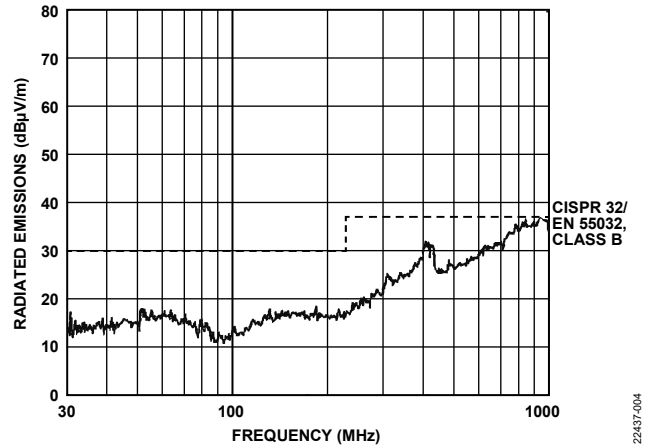
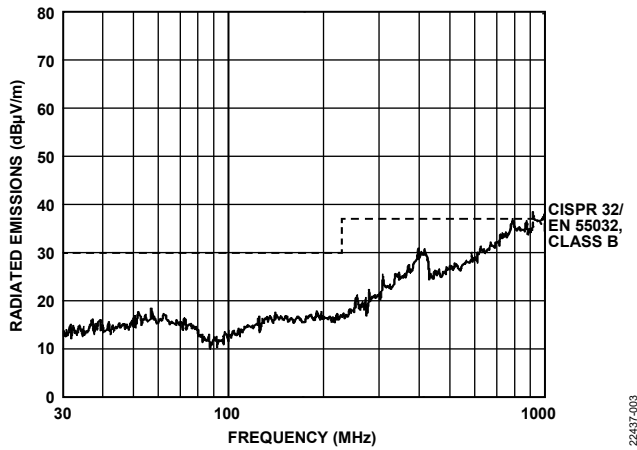

Figure 5. Peak Horizontal Scan from 30 MHz to 1 GHz with 50 mA, 5 V Output, and 5 Mbps Signals on Channel A, Channel B, Channel C, and Channel D
Figure 4. Peak Horizontal Scan from 30 MHz to 1 GHz with 100 mA, 5 V Output, 0 Mbps Signals on Channel A, Channel B, Channel C, and Channel D
The **ADuM6420A/ADuM6421A/ADuM6422A** devices provide regulated, isolated power that meets CISPR 32/EN 55032, Class B limits at full load on a 2-layer printed circuit board (PCB) with ferrite beads. Radiated emissions test plots of the EVAL-ADUM6421ARNZ/EVAL-ADUM6421AURNZ are provided in Figure 4 and Figure 5. All devices in the family include the same isolated dc-to-dc converter and are differentiated by directional digital channel configurations.
Measurements carried out according to the CISPR 32/EN 55032, Class B standard in a 10 meter semianechoic chamber from 30 MHz to 1 GHz are shown in Figure 4 and Figure 5. Figure 4 shows the results of the peak horizontal scan (the worst case) from 30 MHz to 1 GHz with 100 mA, 5 V output. Figure 5 shows the results of the peak horizontal scan (the worst case) from 30 MHz to 1 GHz with 50 mA, 5 V output, and 5 Mbps signal on Channel A, Channel B, Channel C, and Channel D. Table 1 shows the tabulated quasi peak (QP) results. These results show that the ADuM6420A/ADuM6421A/ADuM6422A emissions are below CISPR 32/EN 55032, Class B limits when tested on a 2-layer PCB with the use of ferrite beads. When tested with 5 V supplies, a 100 mA load, and a data rate of 0 Mbps on Channel A, Channel B, Channel C, and Channel D, the quasi peak margin limit is -3.6 dBµV/m. When tested with 5 V supplies, a 50 mA load, and a data rate of 5 Mbps on Channel A, Channel B, Channel C, and Channel D, the quasi peak margin limit is -6.0 dBµV/m.